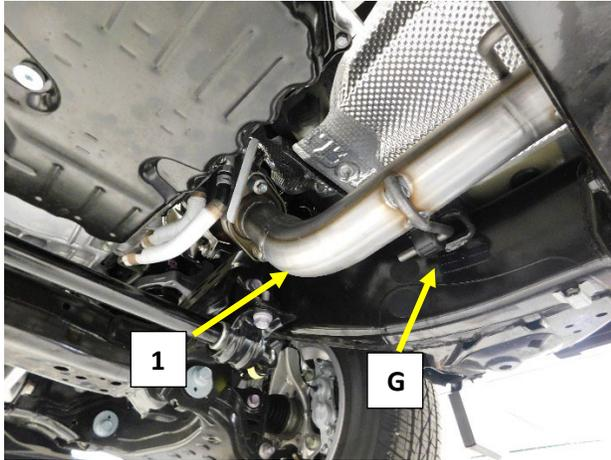

Figure.3
1. Install the supplied Down Pipe (1) on to the catalytic converter using the OEM spring bolts. **Fig.3**
2. Install the rubber Isolators (G) on to the hanger rods. **Fig.3/4**